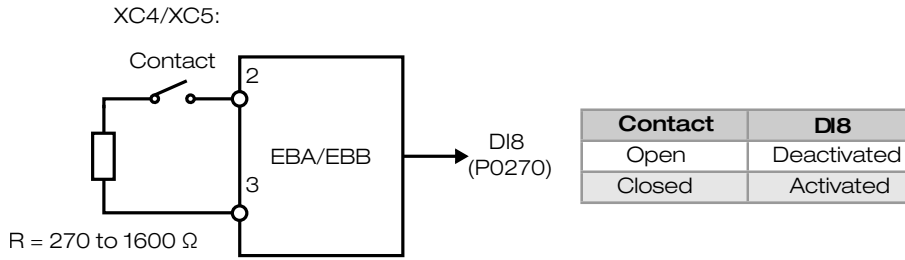

Figure 5.34: D18 as a normal digital input
- In order to use the DI8 as a normal digital input, program the designated function at P0270, and connect a resistor, ranging from 270 to 1600 Ω, in series with the contact (Figure 5.34 on page 5-58).